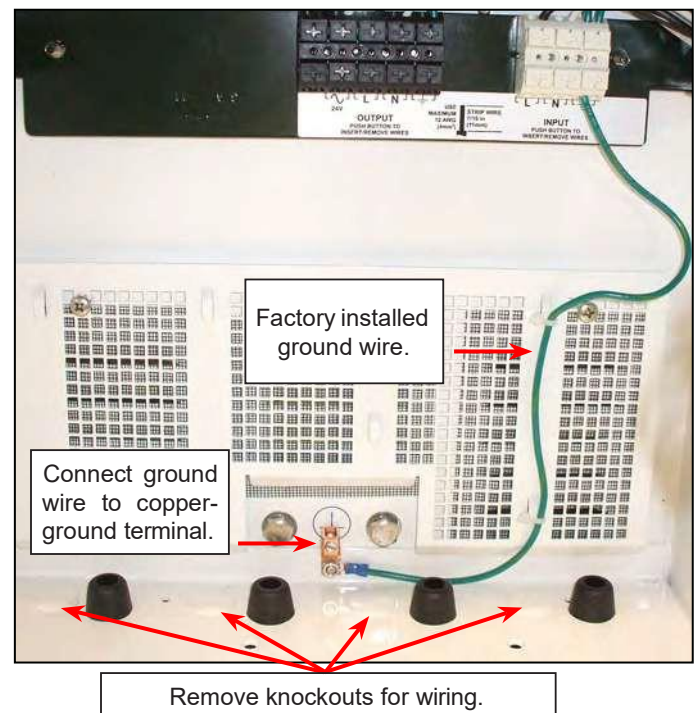

Figure 17 — Wiring the Micro350
6. Run the ground wire to the ground terminal shown in Figure 17.